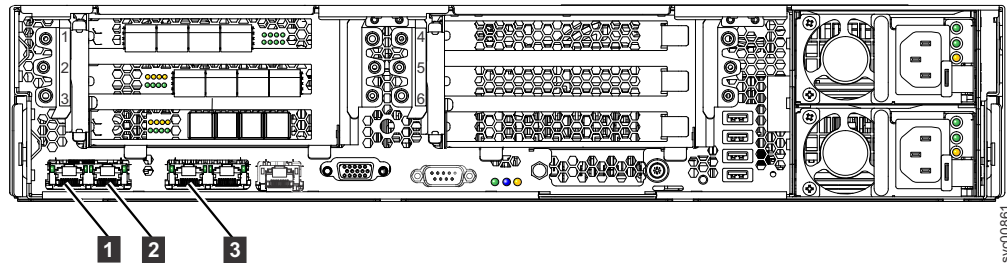

Figure 39. Ethernet ports on the rear of the SAN Volume Controller 2145-DH8
1. Connect the Ethernet cables to Ethernet port 1, as shown in Figure 39.